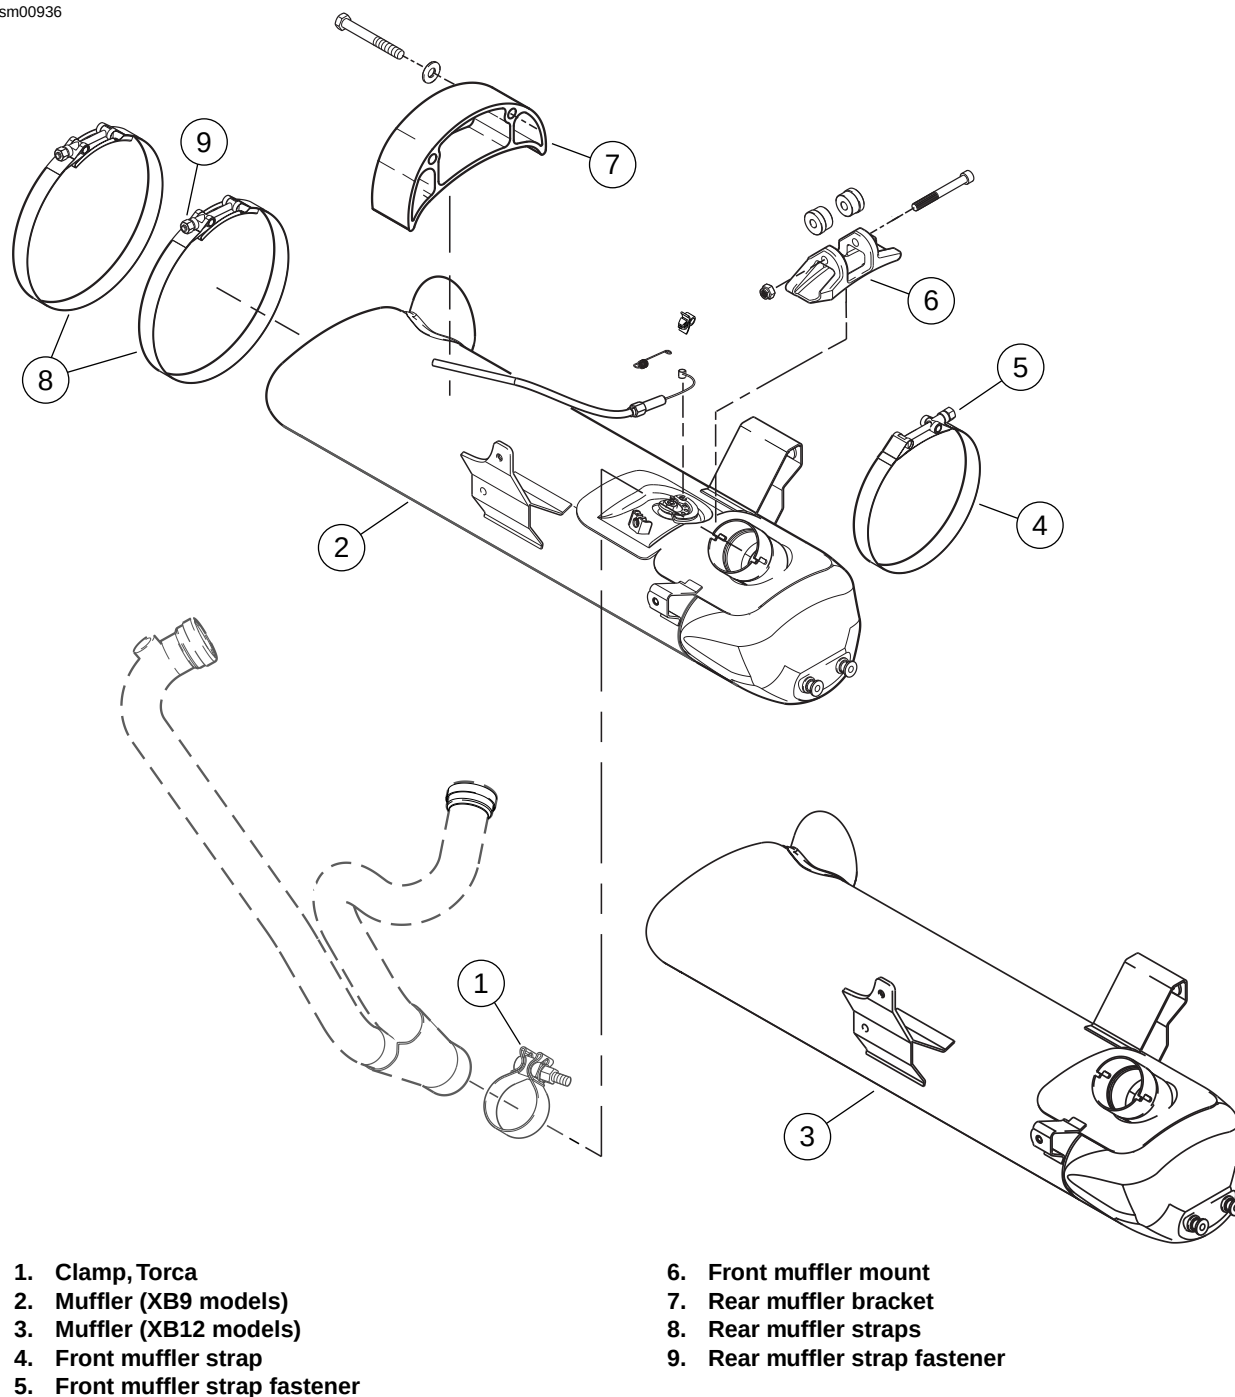

Figure 3-37. Muffler Mounting System
18. See Figure 3-37. Apply LOCTITE 271 (red) to rear muffler bracket fasteners, install and tighten to 32-36 ft-lbs (43.4-48.8 Nm).